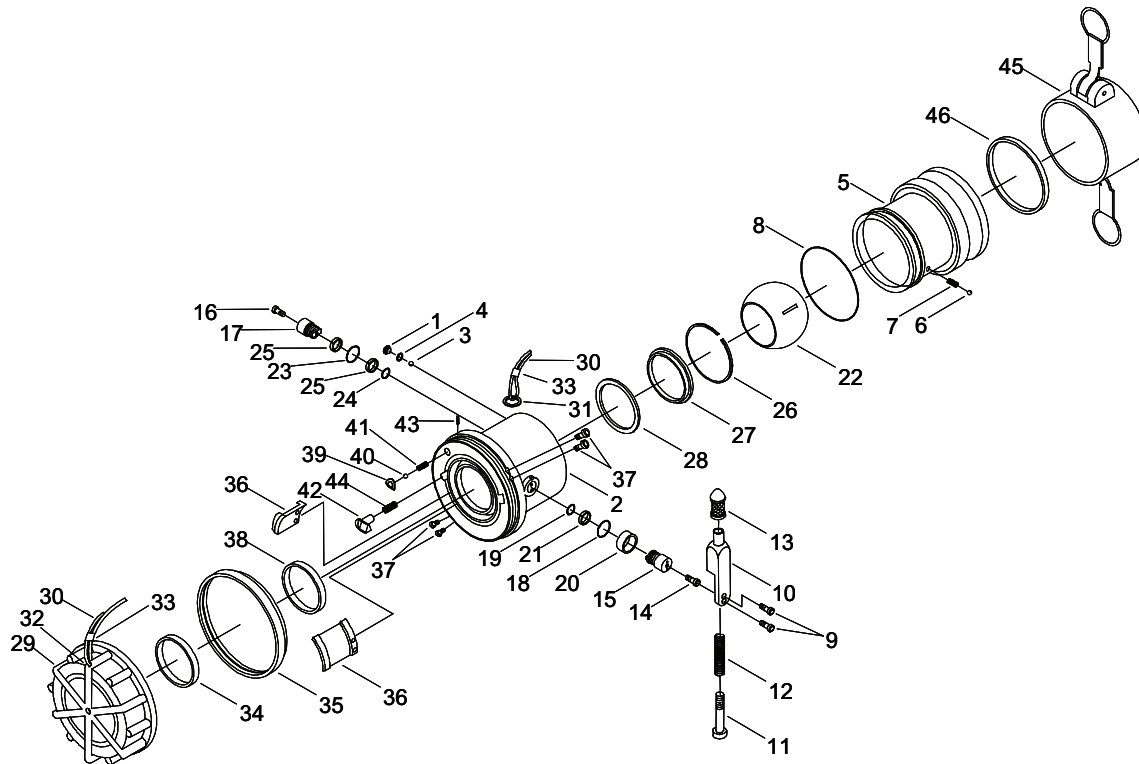

Figure 1. 4 In. Male X 3 In. Unisex Adapter.
3. Close the control arm (Figure 1, Item 10) and disconnect the (dry-break valve) coupling assemblies by rotating the couplings in a counterclockwise direction.
6. With the control arm (Figure 1, Item 10) in the open position, apply pressure of 5 PSI (34.47 kPa) to the repaired (dry-break valve) coupling assembly.
10. Close the control arm (Figure 1, Item 10) and disconnect the repaired (dry-break valve) coupling assembly from the similar (dry-break valve) coupling assembly by rotating the couplings in a counterclockwise direction.
12. With the control arm (Figure 1, Item 10) in the closed position, apply pressure of 5 PSI (34.47 kPa) to the repaired (dry-break valve) coupling assembly.
15. Reduce pressure from the test system, remove repaired (dry-break valve) coupling assembly from the test system and install dust cap (Figure 1, Item 29).
Screw (Figure 1, Item 1) is a self-locking screw and is designed to be reused up to 15 times before replacement. If a torque wrench is not used to remove screw (Figure 1, Item 1), then screw (Figure 1, Item 1) should be replaced.
1. While removing screw (Figure 1, Item 1) from coupling (Figure 1, Item 2) use a torque wrench and screwdriver bit to check running torque. If running torque is less than 9.5 in. lb (1.07 N-m), discard screw (Figure 1, Item 1).
Keep inlet hole in the up position when removing screw (Figure 1, Item 1) to prevent loss of ball bearings (Figure 1, Item 3) inside coupling (Figure 1, Item 2).
2. Remove screw (Figure 1, Item 1) from coupling (Figure 1, Item 2).
3. Remove o-ring (Figure 1, Item 4) from screw (Figure 1, Item 1).
4. Discard o-ring (Figure 1, Item 4).
Ensure all 41 ball bearings (Figure 1, Item 3) are accounted for during disassembly.
5. Hold coupling (Figure 1, Item 2) with screw hole toward cleaning cloth and rotate inlet fitting to allow ball bearings (Figure 1, Item 3) to fall onto the cleaning cloth.
When removing inlet adapter (Figure 1, Item 5) retain ball bearing (Figure 1, Item 6) and spring (Figure 1, Item 7). Place cleaning cloth around inlet adapter (Figure 1, Item 2) to prevent loss.
6. Remove inlet adapter (Figure 1, Item 5) from coupling (Figure 1, Item 2).
7. Remove o-ring (Figure 1, Item 8) from outer groove of inlet adapter (Figure 1, Item 5).
8. Discard o-ring (Figure 1, Item 8).
9. Remove screws (Figure 1, Item 9) from control arm (Figure 1, Item 10).
10. Remove control arm (Figure 1, Item 10) from coupling (Figure 1, Item 2).
If it is necessary to disassemble control arm (Figure 1, Item 10), perform the following steps
- a. Remove screw (Figure 1, Item 11) from control arm (Figure 1, Item 10).
- b. Remove spring (Figure 1, Item 12) from control arm (Figure 1, Item 10)
- c. Remove knob (Figure 1, Item 13) from control arm (Figure 1, Item 10).
11. Remove screw (Figure 1, Item 14) from upper shaft (Figure 1, Item 15).
12. Remove screw (Figure 1, Item 16) from lower shaft (Figure 1, Item 17).
13. Using one screw (Figure 1, Item 9), screw into end of upper shaft (Figure 1, Item 15) and remove upper shaft (Figure 1, Item 15) from coupling (Figure 1, Item 2).
14. Remove o-rings (Figure 1, Item 18, 19) from upper shaft (Figure 1, Item 15).
15. Discard o-rings (Figure 1, Item 18, 19).
16. Remove bushings (Figure 1, Item 20, 21) from upper shaft (Figure 1, Item 15).
17. Discards bushings (Figure 1, Item 20, 21).